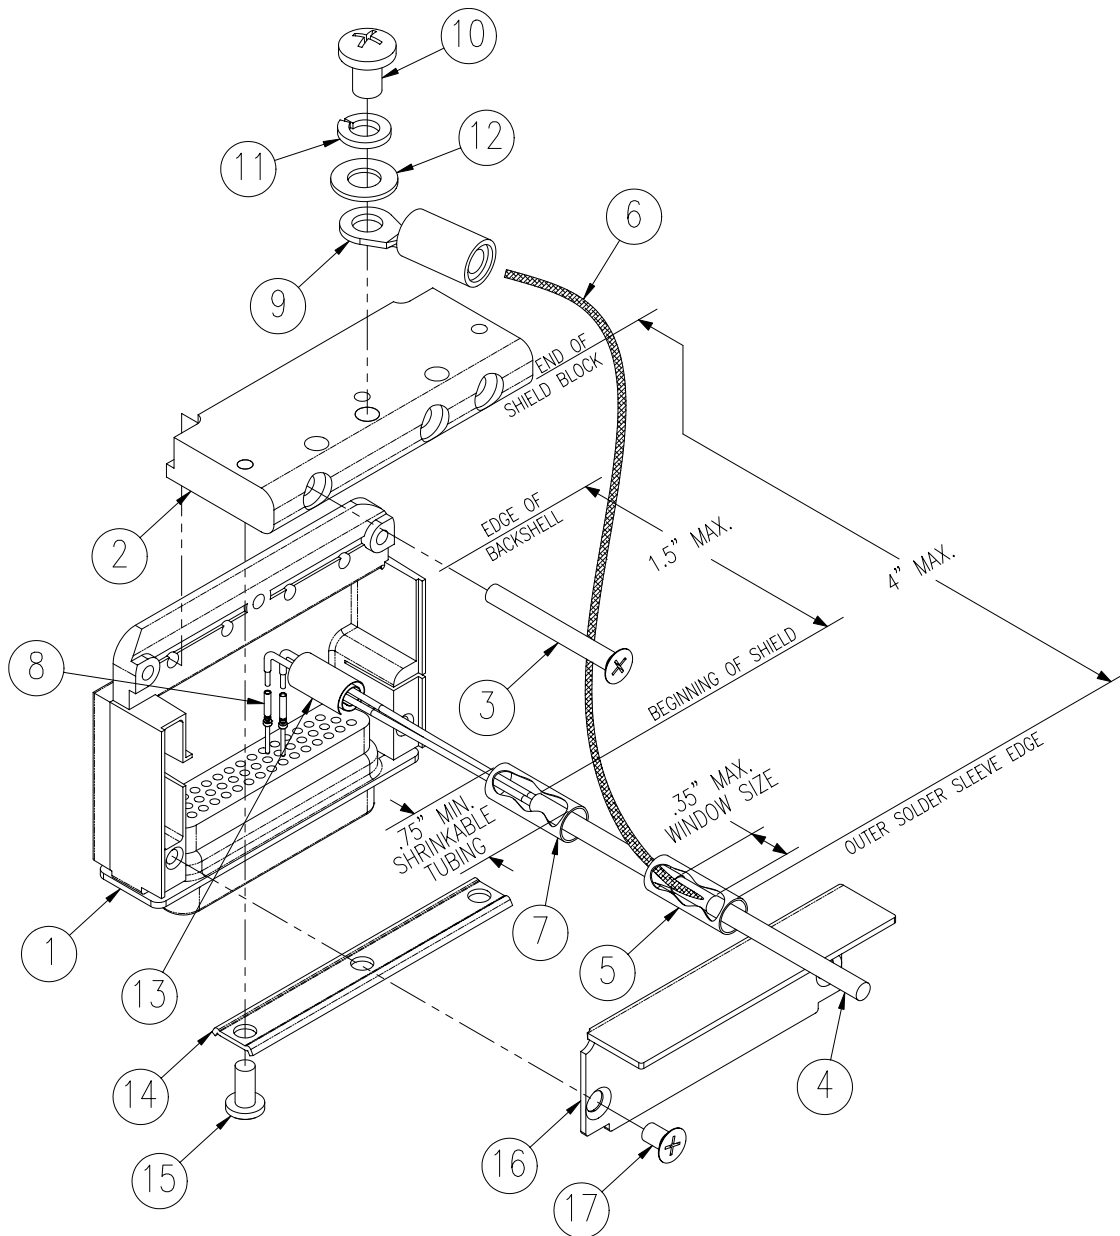
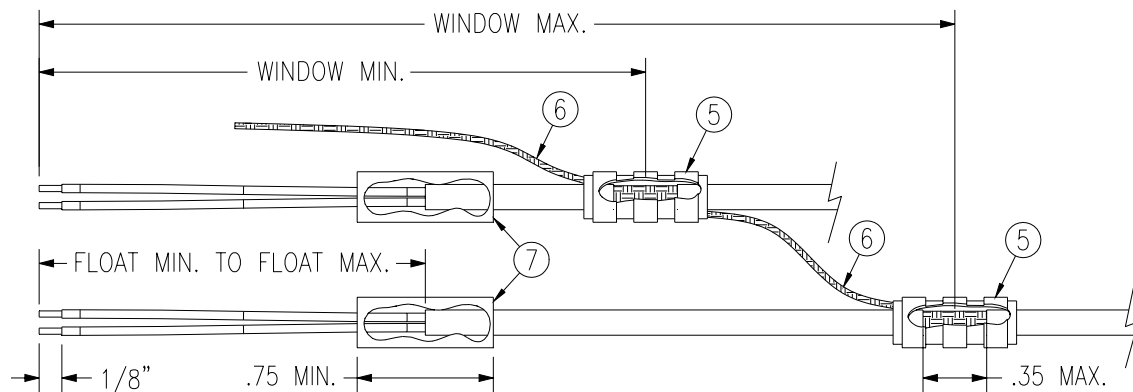

Figure 3-1. Shield Block Install onto Backshell Connector Assembly
Figure 3-3: Daisy Chain Method for Shield Termination
The parts for the connector and backshell assembly, GWX68 installations, are listed in Table 3-3 and shown in Figure 3-1.
1. Attach the Shield Block(s) (2) to the backshell (1) by inserting the flathead screws (3) through the holes on the Shield Block and threading into the tapped holes on the backshell (1). (See Figure 3-1). The appropriate number of Shield Block kits is included in the GWX 68 connector kit.
5. Strip back 1/8" of insulation and crimp a pin (8) to each of the conductors in the shielded cable.
7. Cut the Flat Braid (6) to a length with the addition of a ring terminal that will reach one of the tapped holes of the Shield Block (2). (See Figure 3-1). An appropriate amount of excess length without looping should be given to the Flat Braid (6) to allow it to move freely with the wire bundle. Note that the maximum distance from the backshell allowed for the window splice should keep the Flat Braid (6) to a worst case length of approximately 4".
8. Guidelines for terminating the newly cutoff Flat Braid(s) (item 6) with insulated ring terminals (9):
- Each tapped hole on the Shield Block (2) may accommodate only two ring terminals (9).
- It is preferred that only two Flat Braids (6) be terminated per ring terminal. Two Flat Braids per ring terminal will necessitate the use of a Ring terminal, #8, insulated, 14-16 AWG (MS25036-153).
- In rare situations where more braids need to be terminated for this connector than three per ring terminal it is allowable to daisy chain a maximum of two shields together before coming to the ring terminal. (See Figure 3-3).